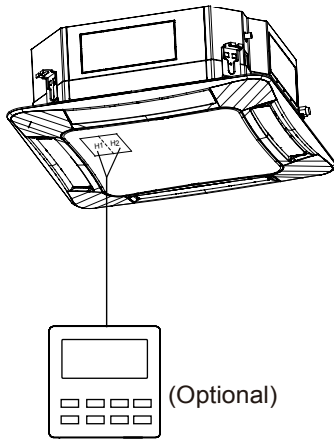
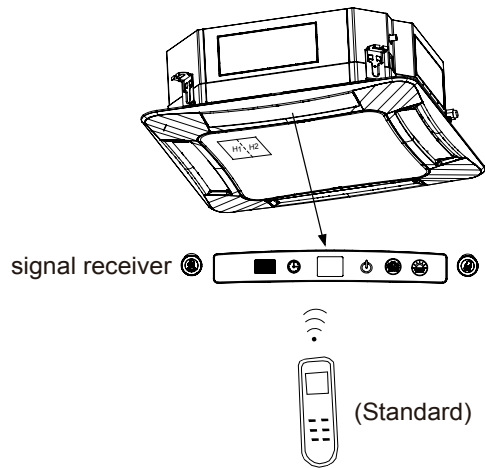

Fig 5.4.1
Fig 5.4.2
- 1) Wired controller (standard) is shown as Fig. 5.4.1, wireless controller (optional) is shown as Fig. 5.4.2. Signal receiver is provided with panel as standard accessory.